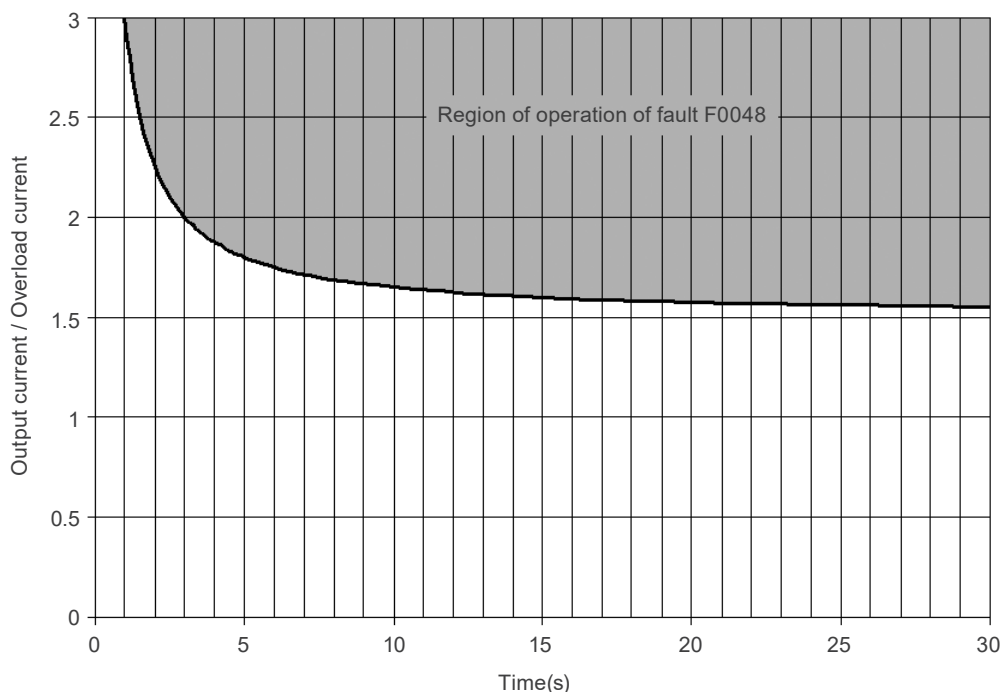

Figure 17.2: Actuation of the overload of the IGBTs (Heavy Duty - HD)
The CFW503 IGBTs overload protection uses the same motor protection format. However, the design was changed so that fault F0048 occurs in three seconds for 200 % of overload for heavy duty (HD) (P0298 = 1), in relation to the inverter rated current (P0295), as shown in Figure 17.2 on page 17-4. On the other hand, the IGBTs overload (F0048) has no actuation for levels below 150 % of the inverter rated current (P0295).